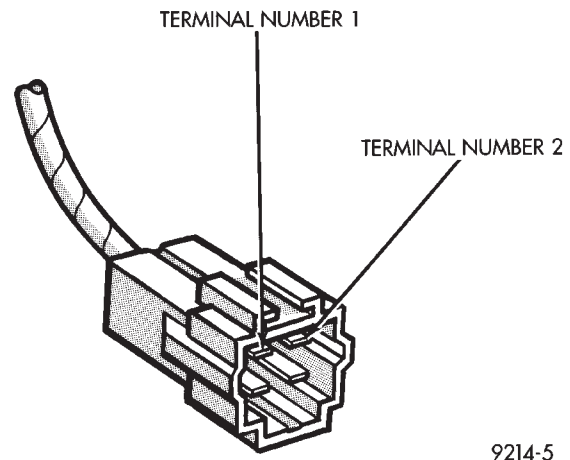

Fig. 2 Injector Harness Connector
- Connect a jumper wire to ground terminal Number 1 of the injector harness (Fig. 2) to engine ground.
- Connect a jumper wire to the positive terminal Number 2 of the injector harness (Fig. 2) and touch the battery positive post for no longer than 5 seconds. This releases system pressure.